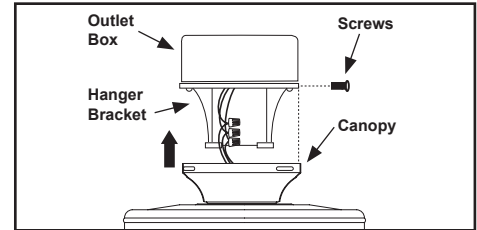

Figure 12
5. Secure the canopy to the hanger bracket as shown in Figure 12 with four screws included with your fan. Secure the canopy to the hanger bracket with the four screws with your fan.